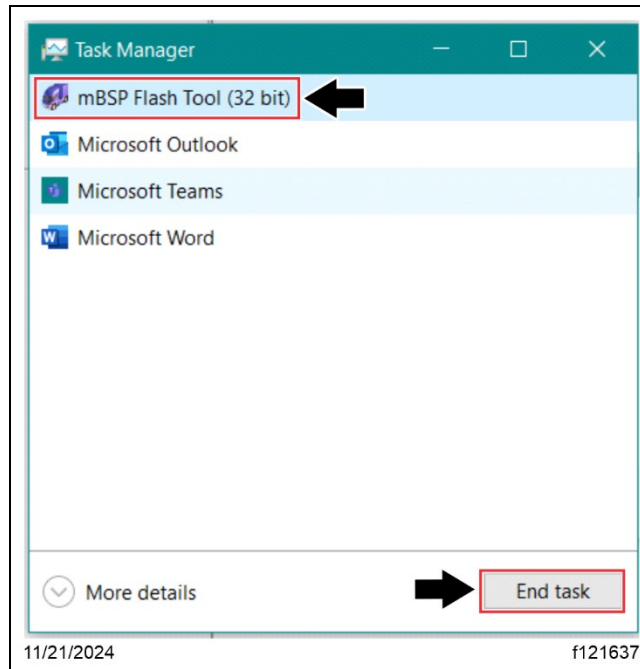

Fig. 58, Task Manager
- 17.2. Go to 'Task Manager' on the computer and make sure the flash tool application is closed. Select 'mBSP Flash Tool,' then select the 'End Task' button. See Fig. 58.